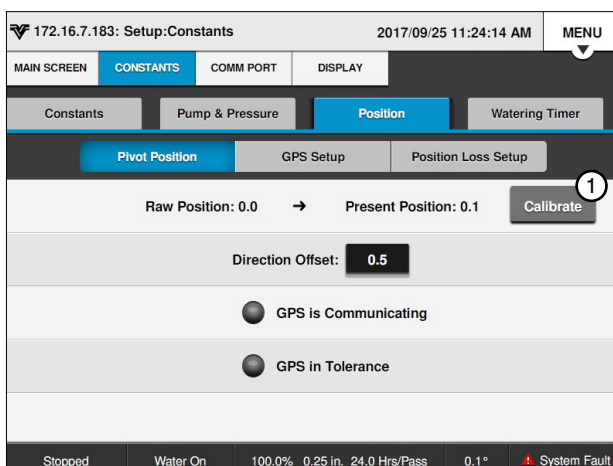

Figure 30-2 Pivot Position Screen
1. Push **Menu, Setup, Constants, Position** and **Pivot Position** to display the Position screen. Refer to Figure 30-2.